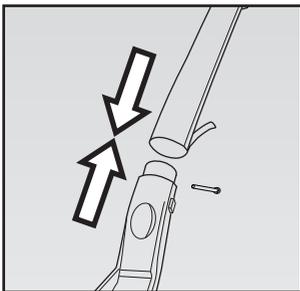

Fig. 2
- Insert the handle (N) in the body of the motor (K). Install the screw (M) provided to lock the handle to the body of the motor (Fig. 2).